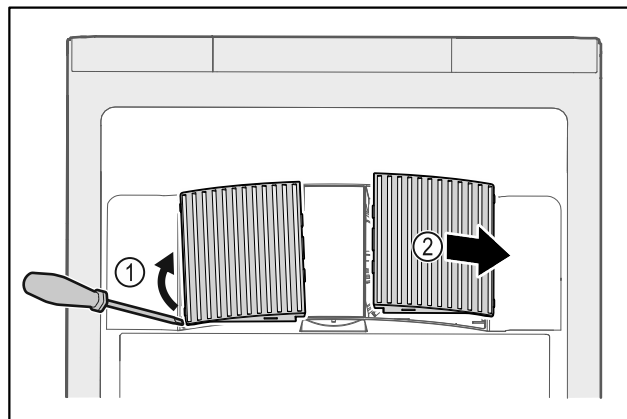

Fig. 176
- ▶ Carefully lever out fan covers from the side Fig. 176 (1) and remove towards the front Fig. 176 (2).